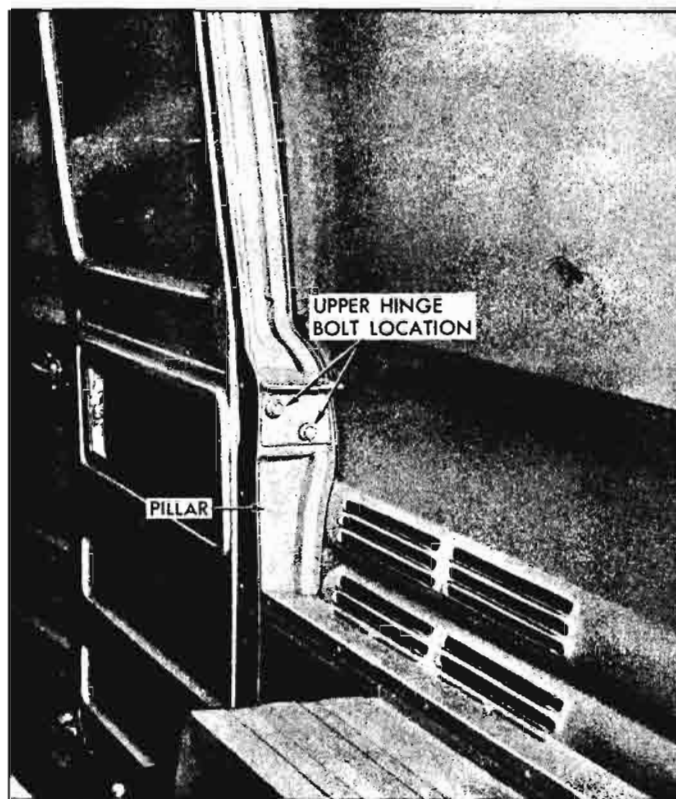

Fig. 10-59a—Side Rear Door Hinge Pillar
NOTE: On the side rear door, hinge bolts for the upper hinge are located behind the body side rear inner front upper panel assembly (fig. 10-59a).
4. Remove body side rear inner front upper panel assembly and remove side rear door upper hinge retaining bolts (fig. 10-59a).